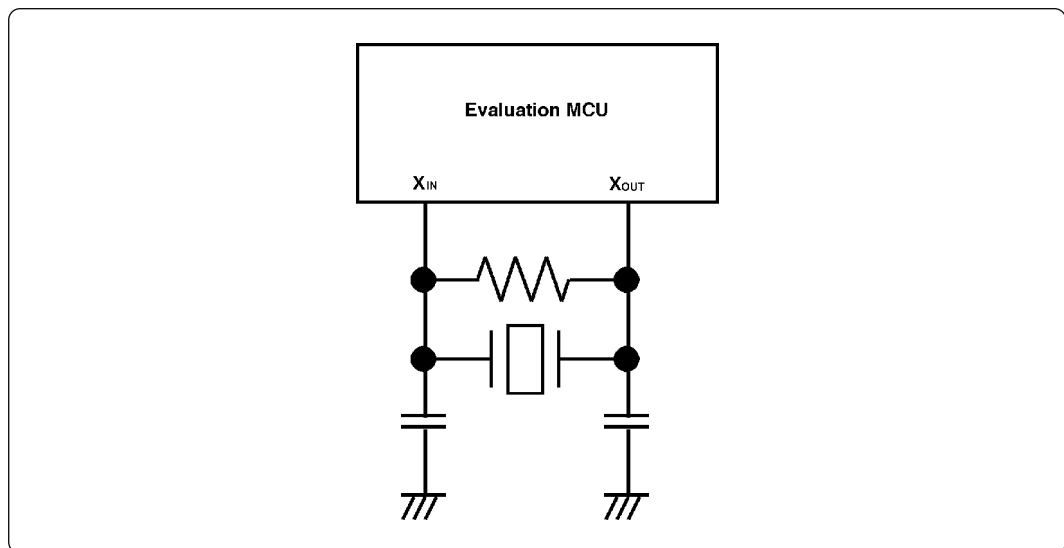

Figure 3.3 Circuit in which oscillation does not occur (same for X_{CIN} - X_{COUT})
- Make note of the fact that in the oscillator circuit shown in Figure 3.3 where a resonator is connected between pins X_{IN} and X_{OUT} , oscillation does not occur because a flexible cable, buffer IC and other devices are used between the evaluation MCU and the target system.
(2) Changing the Internal Oscillator Circuit of the Emulation Pod